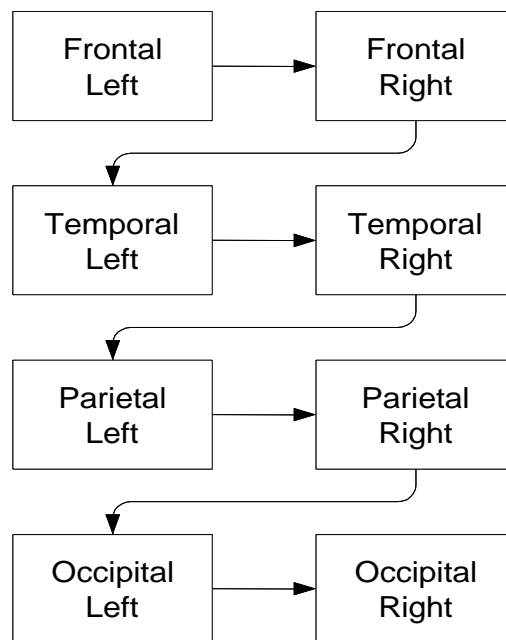

Figure 2-4: Infrascanner head scanning sequence
- 3.2.4 The Infrascanner is ready to begin measuring. Take the Infrascanner, and start the head scan, alternating between left and right positions according to the head scanning sequence in Figure 2-4. The system helps the user through the measurement process by displaying tutorial screens (Figure 3-6) and guiding the user to repeat measurements when a potential hematoma is detected. If the operator wishes to skip head lobe, Menu button is pressed to bring a menu for skipping a lobe.